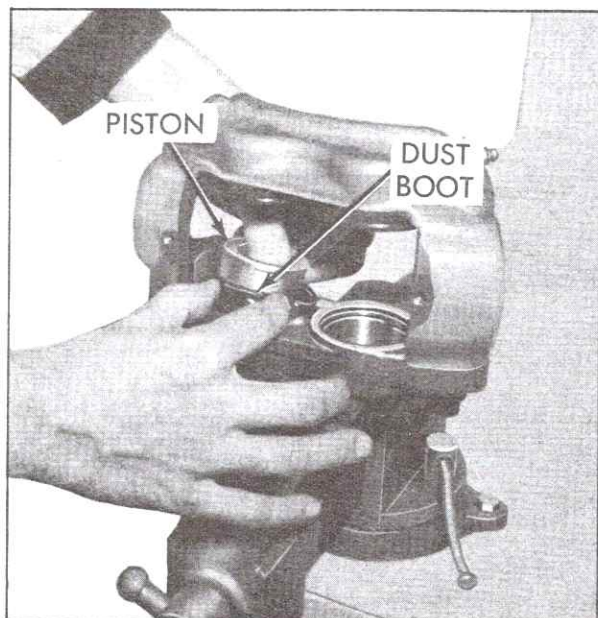

Fig. 5-36 Installing Piston in Dust Boot
5. Lubricate piston with special lubricant and start piston inside of dust boot, Fig. 5-36.